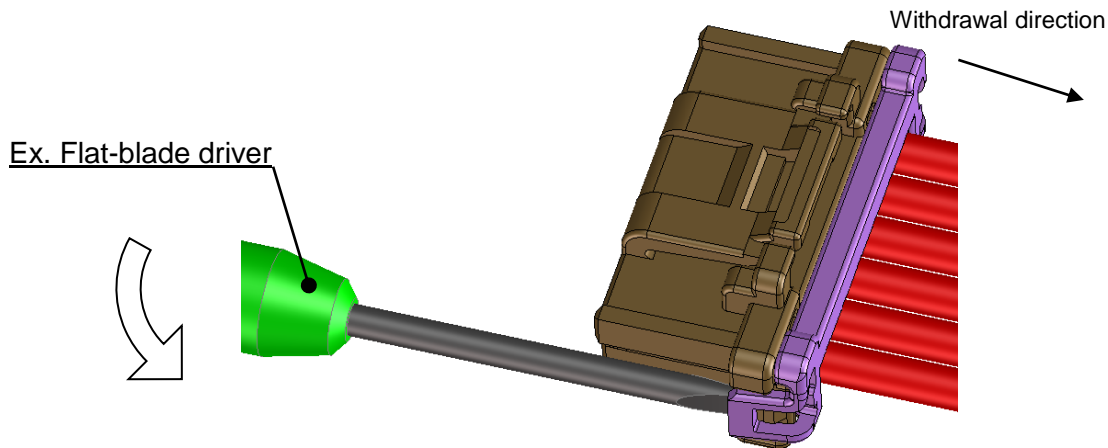

Fig.6-12
- ④ After loading, please confirm with eyes the following state is not found: the lock is over the nail of receptacle housing (Fig.6-11), the retainer is bending (Fig.6-12). Refer to Fig.6-10.
Fig.6-12 the state that the retainer is bending